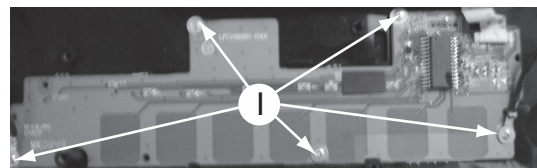

Figure 10
- 1) Loosen 5 screws "I" to remove Touch Sensor board as shown in figure 10.